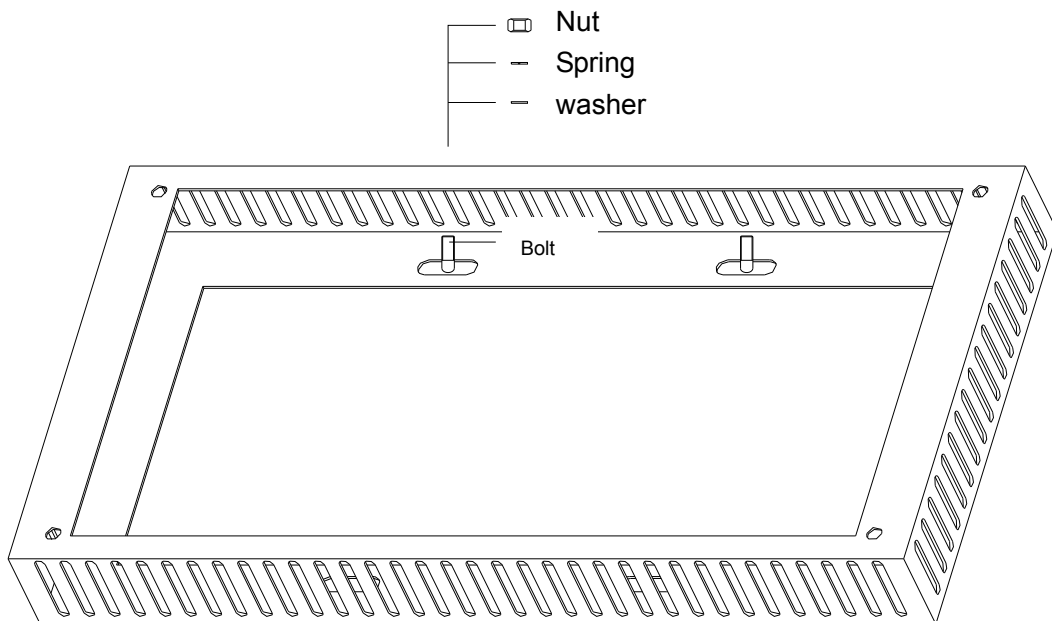

Figure 3 Installation Diagram
- a) Concrete Platform Installation: When the UPS is required to be installed on concrete platform, firstly pre-install four M10 anchor screws on the concrete platform according to the dimensions of A or B group installation holes shown in Figure 3, and then fix the base to the platform using M10 screws, flat washer and spring washer shown in Figure 3. After that, place the UPS rack on the fixed base and open the front and rear panel to fix it to the base again using the 4 M8 screws removed in the second step, as shown below.